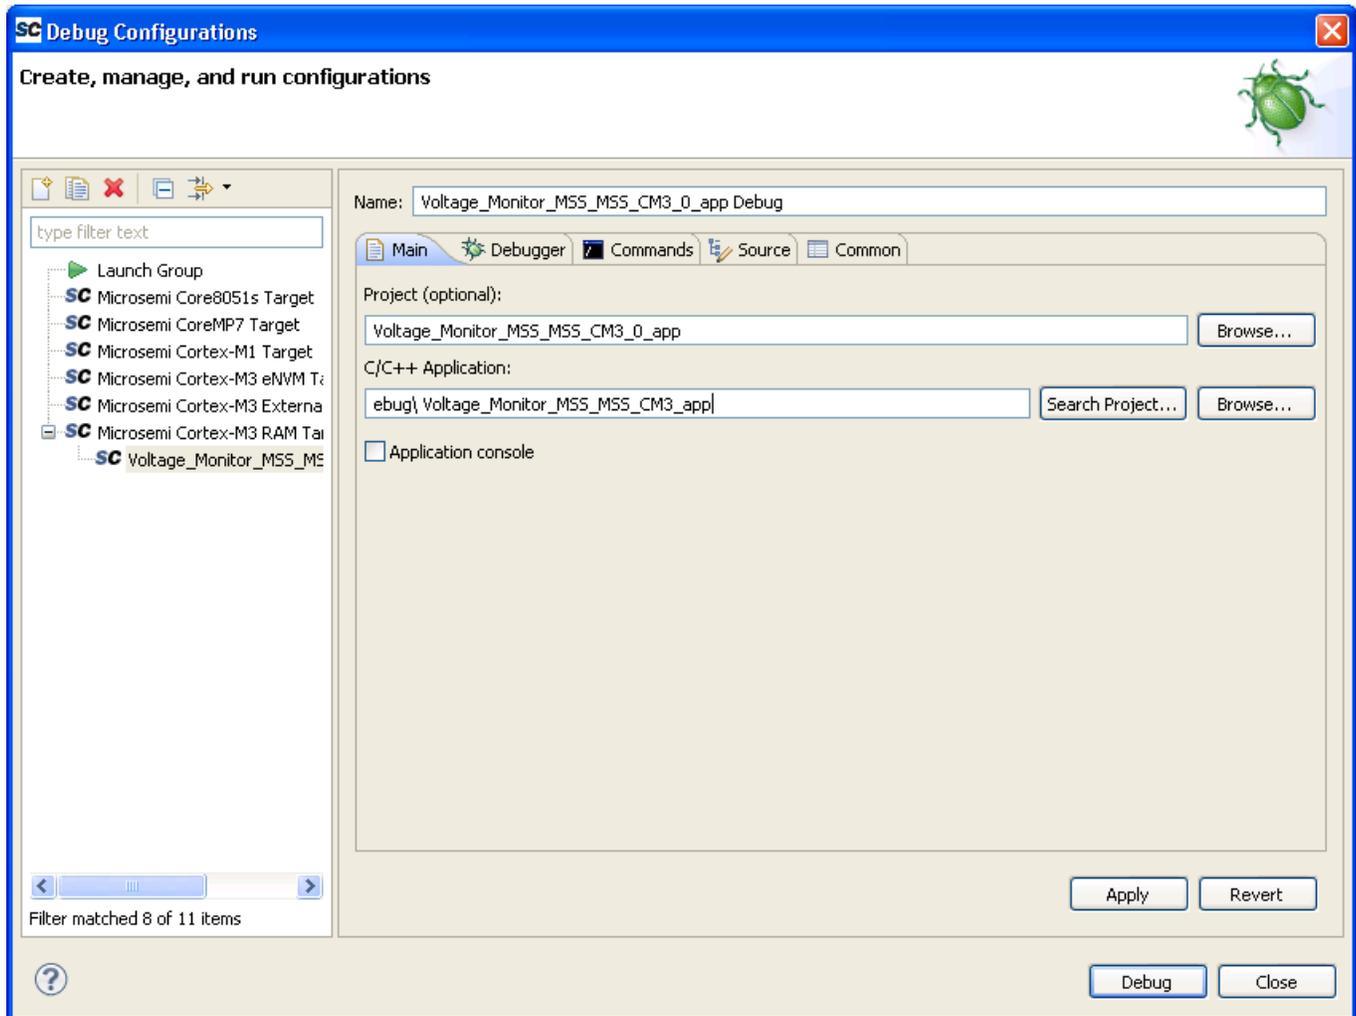

Figure 35 - Debug Window
2. Double clicking on **Microsemi Cortex-M3 RAM target** displays an image similar to Figure 35 . :